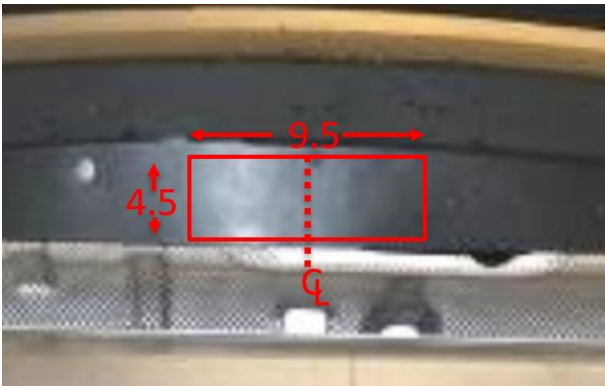

Figure 3
- Fascia trimming and reinstallation** – Mark the center line on the fascia and trim the area on fascia as shown in **Figure 3**. *Do not trim on sensor bracket area. Reinstall all fasteners, wiring, and fascia removed in step 1.